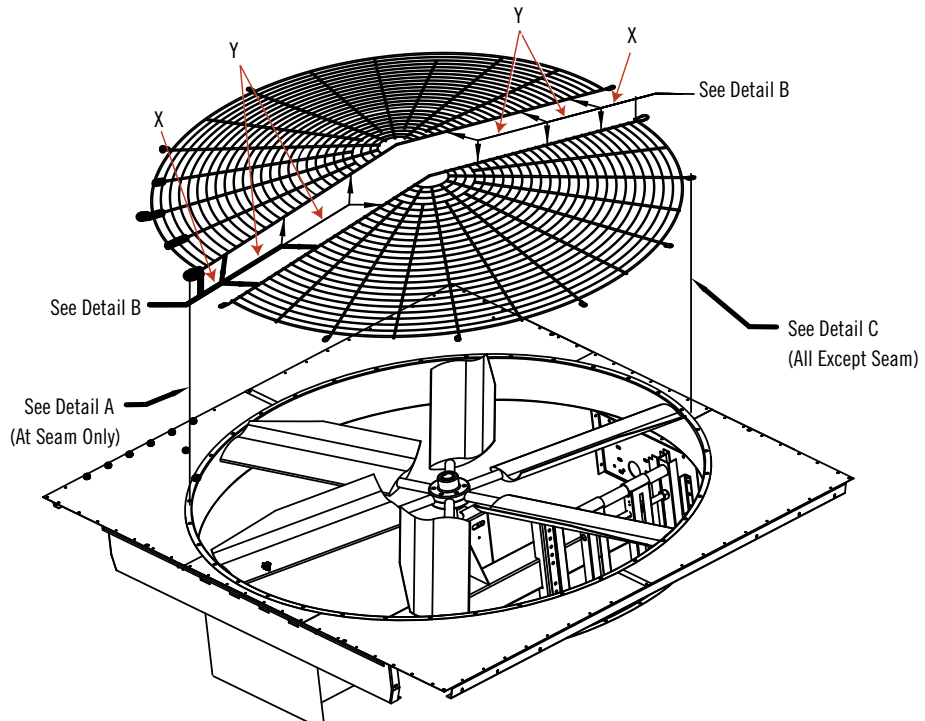

Figure 15. Two-Piece Fan Guard Assembly
1. Using six U-bolt assemblies, fasten the two halves of the fan guard together as illustrated in **Figure 15, Detail B**. Locate the U-bolt assemblies along the seam between the two guard halves per the X and Y dimension provided in **Table 3** which are based on the diameter of the supplied fan.
3. Mount the fan guard to the unit as illustrated in **Figure 15, Detail A** for the ends of the seam where the two guard halves join together, and **Detail C** for all other locations around the fan guard perimeter.